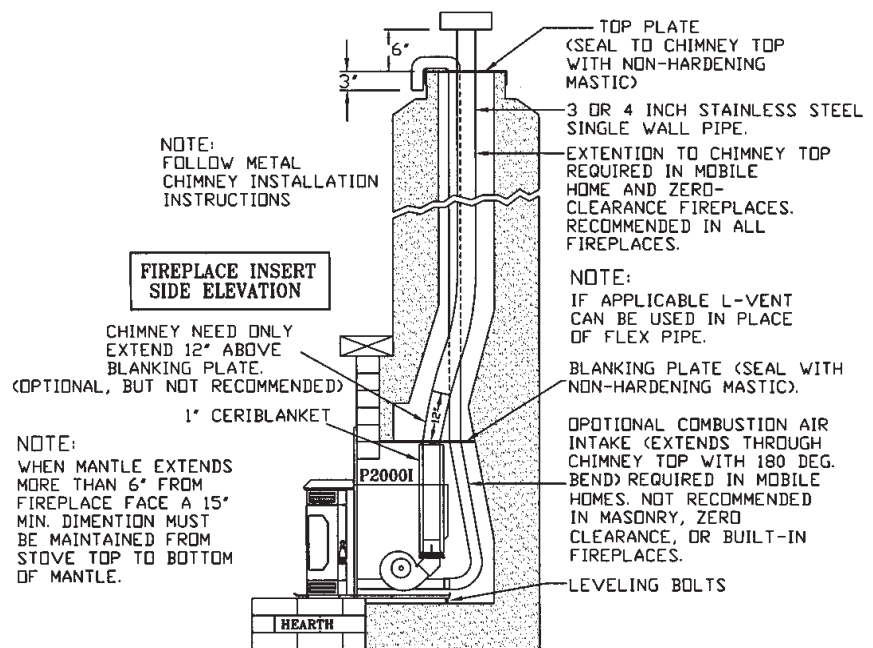

FIGURE 15
B. WHEN VENT PIPE EXTENDS TO CHIMNEY TOP (Refer to Figure 15)
C. WHEN VENT PIPE EXTENDS THROUGH CHIMNEY BLANKING PLATE (Masonry Fireplaces Only) (Refer to Figure 15)